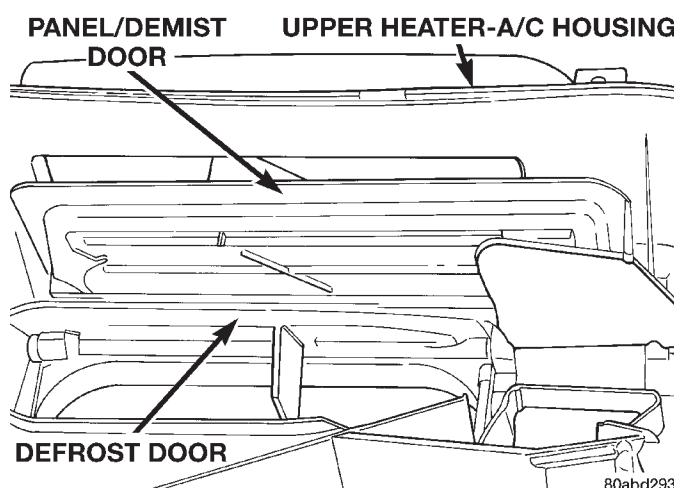

Fig. 53 Panel/Demist and Defrost Doors
(4) Reach inside the upper half of the heater-A/C housing and carefully flex the panel/defrost door (Fig. 53) enough so that the door pivot clears the pivot hole in the housing.
(4) Reach inside the upper half of the heater-A/C housing and carefully flex the defrost door (Fig. 53) enough so that the door pivot clears the pivot hole in the housing.
(5) Remove the defrost door from the heater-A/C housing.
(6) Reverse the removal procedures to install.